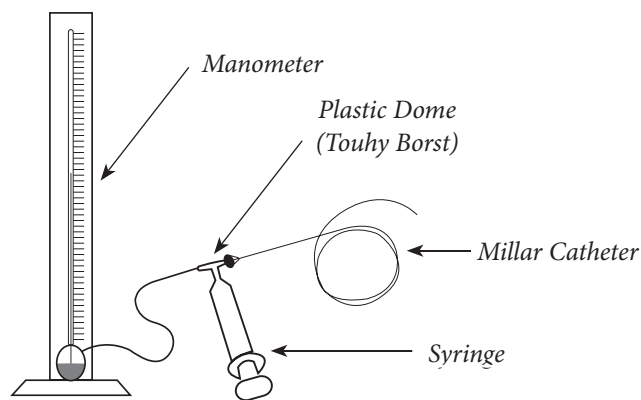

Figure 1
9. For Millar Pressure Catheters the following equipment is required (see Fig 1):
10. Insert the tip of the catheter into the plastic dome (as in Fig 1). Start recording in Chart and increase the pressure using the syringe.